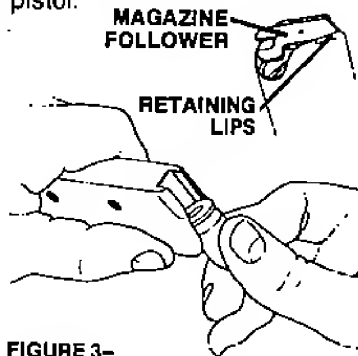

FIGURE 3—
3. With open end uppermost, grasp magazine (appropriate to caliber) in one hand as illustrated in Figure 3. Place a round on magazine follower with base just forward of retaining lips. Press round down and back until base of round touches rear flat edge of magazine. Place next round on top of previous round and press down and back. Repeat until magazine is fully loaded.